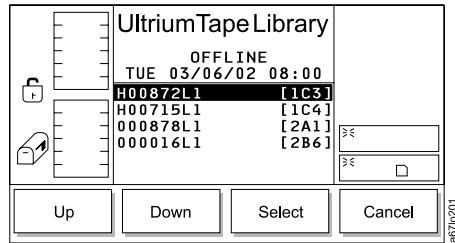

Figure 107. Select Media Dialog
4. Press the button below the **Page Up** or **Page Down** softkey to locate the cartridge that you want, then press the button below the **Select** softkey. The Select Media Dialog displays with a selection bar that lets you choose a cartridge (see Figure 107).